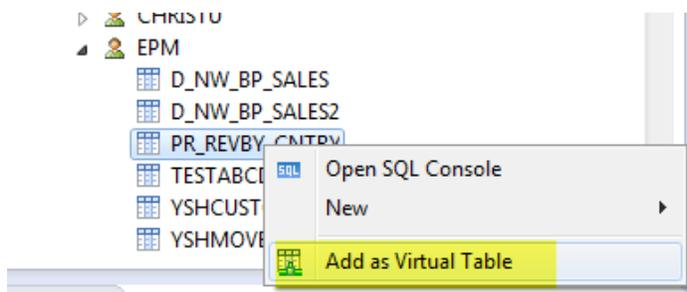
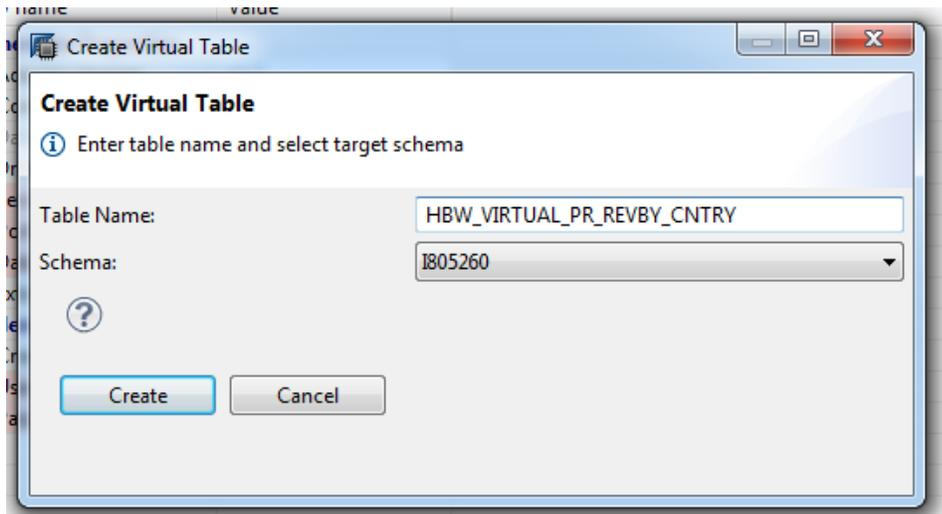
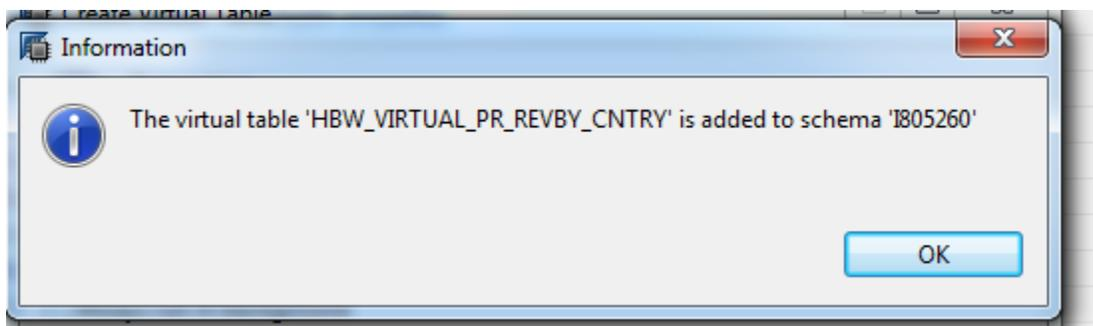

Figure 7 – Add virtual table
Figure 8 – Create virtual table
Figure 9 – Confirmation message for creation of virtual table
1.4 **Create virtual table:** Once you ensure that you can access the required table from the remote source, select the table, right mouse click and select 'Add as virtual table' as shown in Figure 7. This will create a virtual table for the physical table in the remote source. You can name the virtual table with the appropriate name that you want to give as shown in Figure 8. Once you click 'Create' button in Figure 8, the virtual table will be generated and you will get a confirmation message as shown in Figure 9. Click OK to proceed.